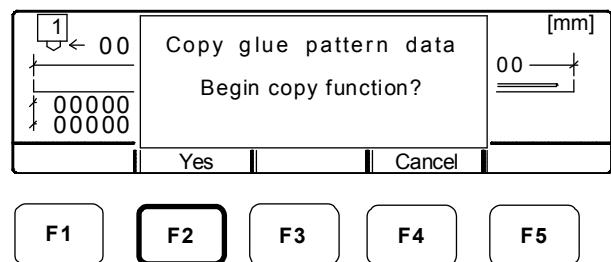

Figure 9-13. Glue-Pattern-Edit Menu with Message
3. Select a destination for the copied data by pressing one or more valve buttons. The “Begin copy function?” message displays (Figure 9-13) and the LED on the valve-selection button stops flashing and becomes solid green.